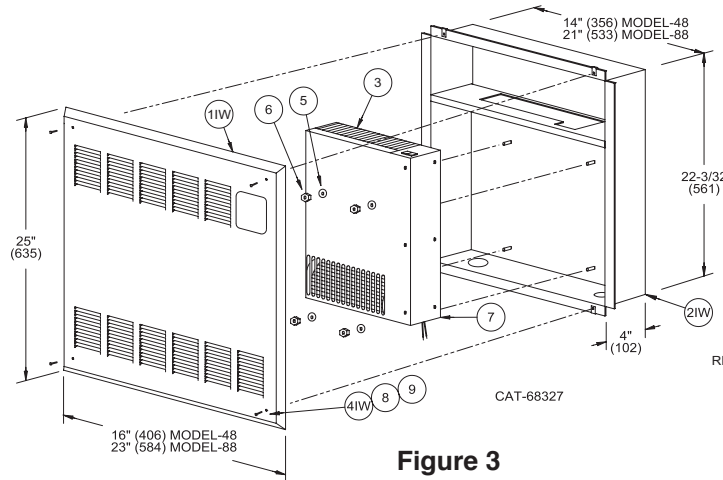
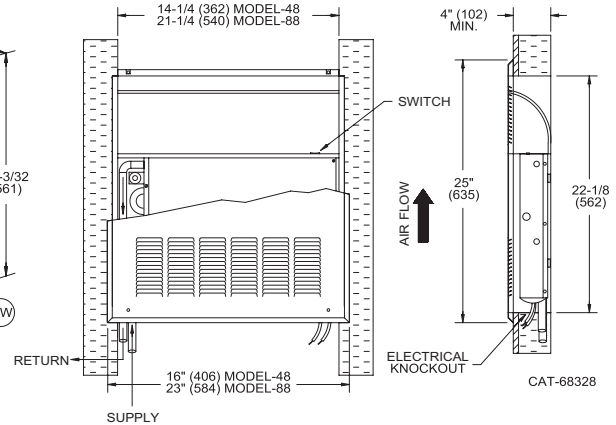
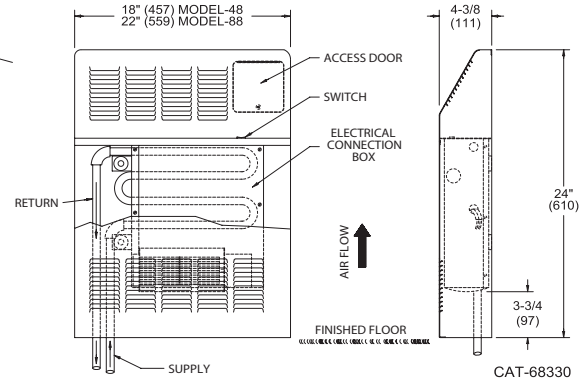

Figure 3
Figure 4
Figure 6
Figures 3 and 5 show exploded views of the wall models. Figure 4 shows the "IW" type mounted in a wall with an air outlet at the top of the unit. Figure 6 shows the wall mounted "EW". The louvers of the front panel will direct the air flow as shown. Use the following procedures for installation:
VERTICAL FIGURE 3 PARTS LIST
1. Frame an opening between wall studding as shown in Figure 4. Model 48 will fit between studs that are on 16" centers. Model 88 will require a small amount of framing to suit the mounting. A 7/8" diameter hole is provided at the bottom of the cabinet interior to provide entrances for electrical connections, and a 7/8" diameter knockout is provided at the rear of the motor in the electrical control box. A 2-1/2" diameter hole is provided at the bottom of the cabinet interior to provide an entrance for piping connections. Cut horizontal framing to clear, as necessary.
4. Mount the Fan/Coil Unit (Item 3) to the recessed back panel, remove the electrical control box cover from fan/coil unit. Secure the fan/coil unit in place using Items 5 & 6 as shown in Figure 3. Do not over tighten.